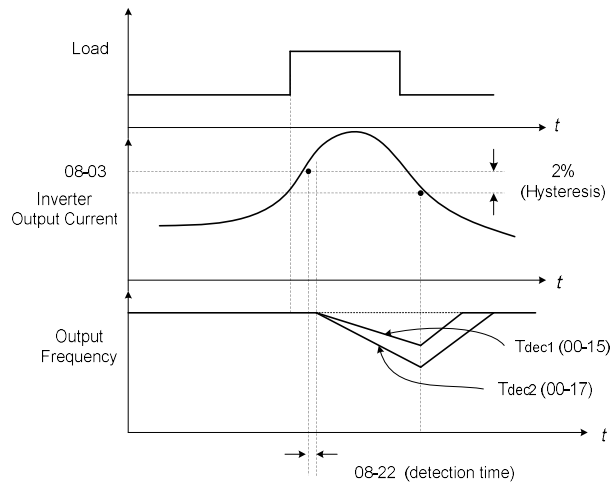

Figure 4.3.93 Stall prevention during operation
- Refer to Figure 4.3.93 below.